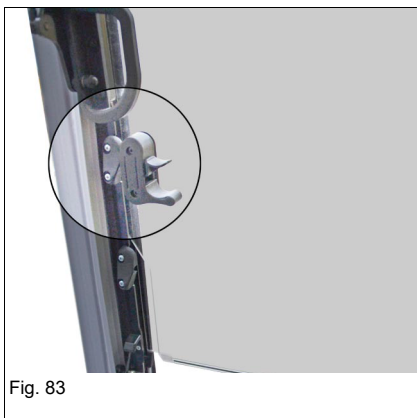

Fig. 83
- ▶ The lower front window must be fully open when the entire front window is opened or closed (*Fig. 83*).